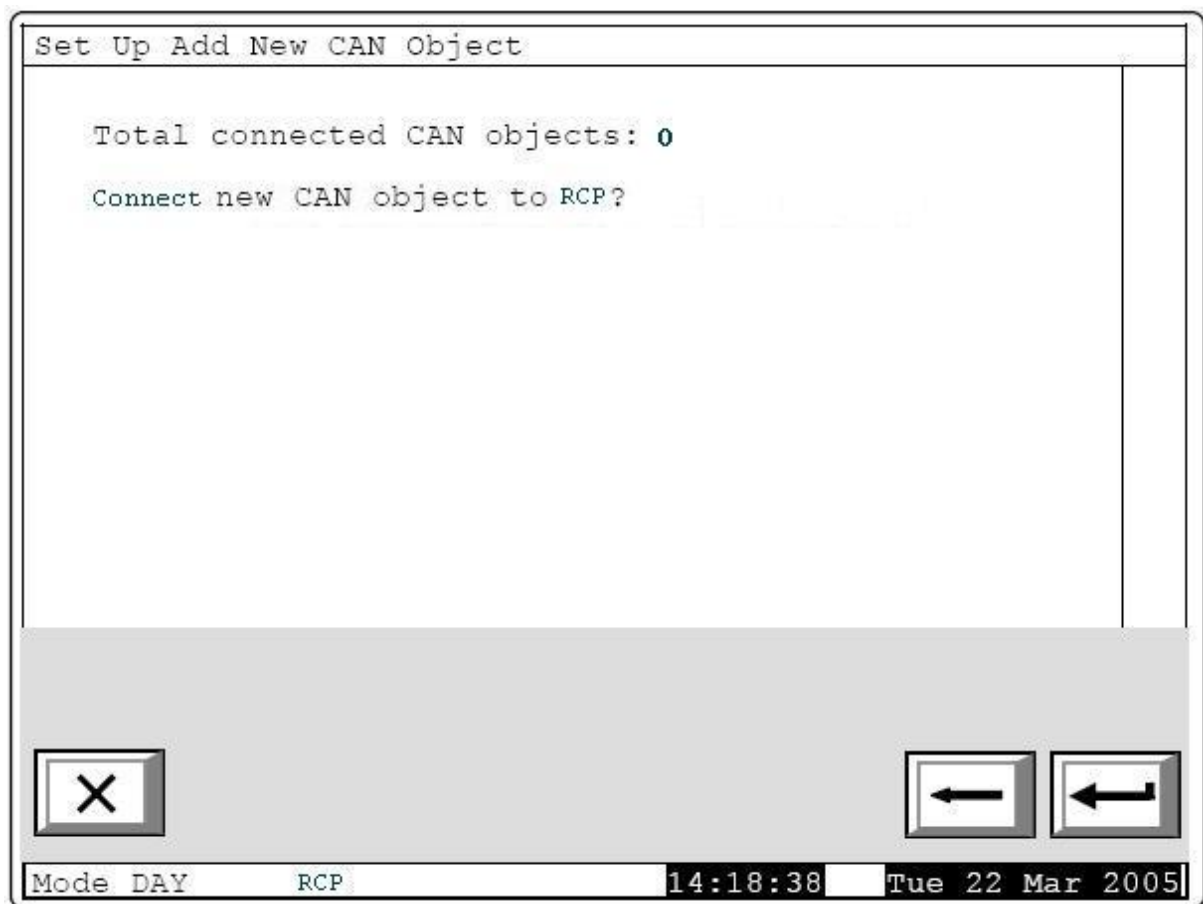

fig. 7
2.3. Create the Remote CAN objects - after we set-up the CAN local parameters for the repeater/panel (point 2.2), next step is to set-up the remote can objects parameters. In order to create a new CAN object you must go to menu "setup -> panel parameters -> Local Network -> Add new CAN object". On the panel/repeater will be displayed a confirmation window - fig. 7: